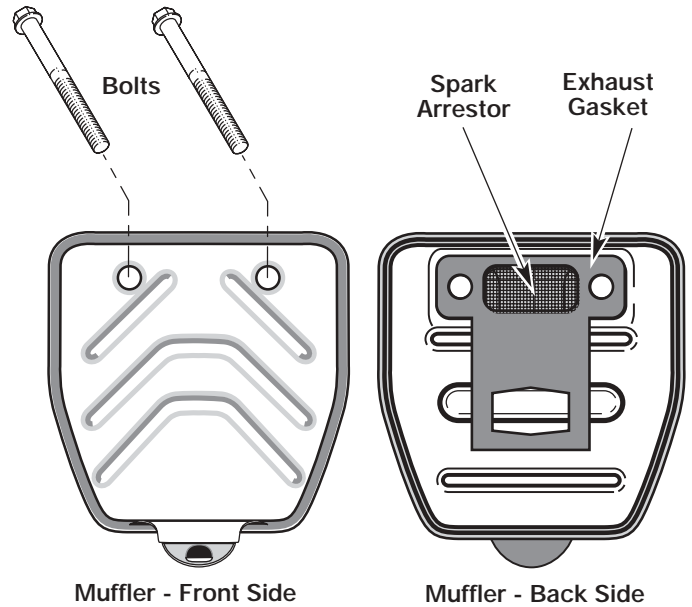

Fig. 52
2. Locate muffler front and the two (2) bolts securing it to the engine (Fig. 52). Remove the two (2) bolts using a flatblade screwdriver or 5/16-inch socket or nut driver. Pull muffler off of the engine.
3. Turn muffler over to the back side and locate the exhaust gasket. Remove the muffler gasket from the muffler (Fig. 52).
7. Place the exhaust gasket against muffler's back side. Align the gasket bolt holes with the bolt holes in the muffler. While holding exhaust gasket in place, insert the bolts into the muffler's front side (Fig. 52).